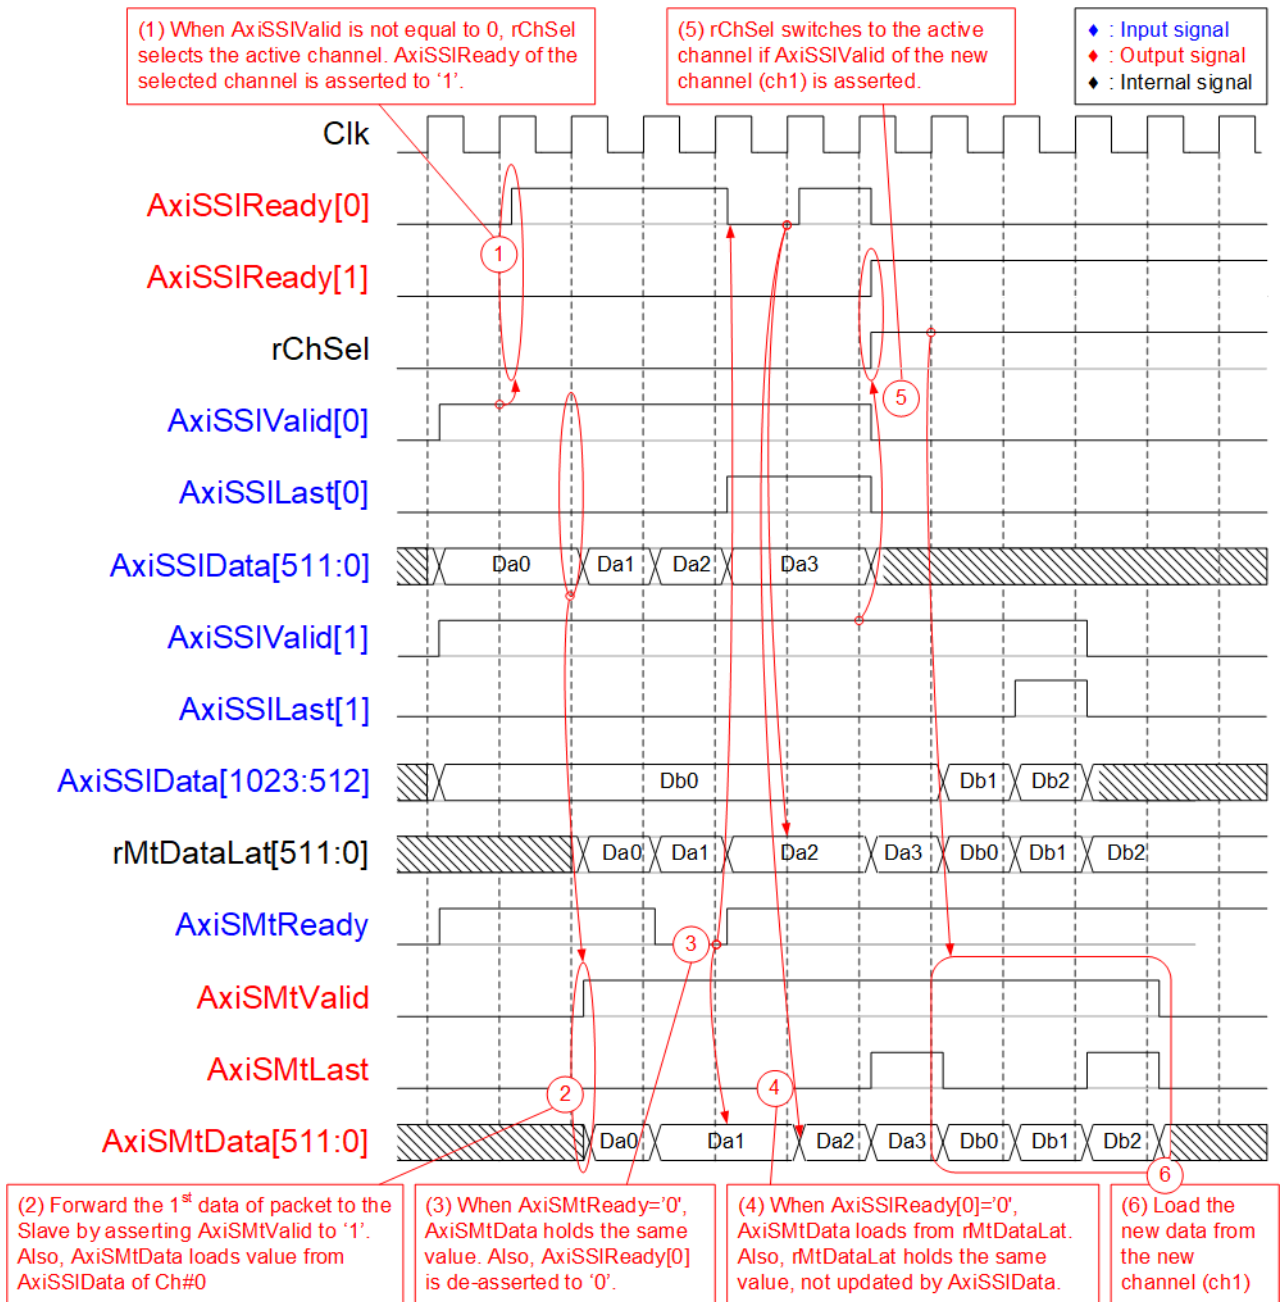

Figure 2-3 AxiSSw2to1 timing diagram
The AxiSSw2to1 logic uses “rChSel” to be the control signal to select the active AxiSSI I/F (the interface to connect to the external Master). When two channels are requested in Idle condition, rChSel changes the value to the new channel after finishing the current channel transferring. More details are shown in Figure 2-3.
1. When two user sends the new packet by asserting AxiSSIVValid to '1' at the same time and the module is in Idle, rChSel (the signal to indicate the active channel) does not change the value to forward the data from the same channel to the Slave. In Figure 2-3, the Ch#0 is selected, so AxiSSIReady of the selected channel (Ch#0) is asserted to '1' to accept the first data.
5. After the final data of a packet from the active channel is accepted, the next active channel is scanned. If AxiSSIVValid of another channel is asserted, rChSel will switch the value. In Figure 2-3, the next active channel is Ch#1 (rChSel='1') to accept the data from Ch#1.